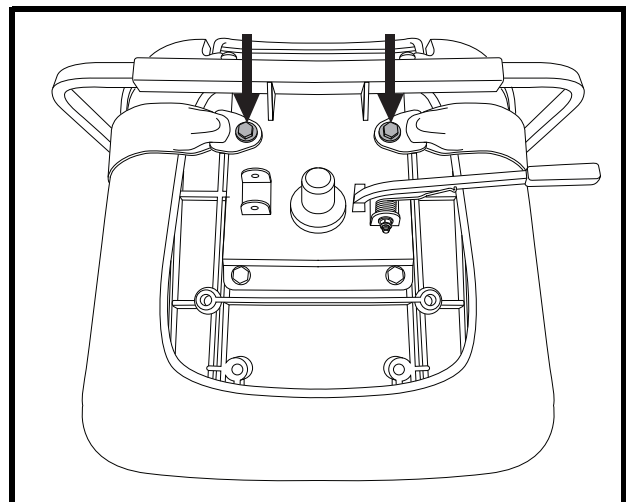

Figure 21. Positioning Belt Bolts
2. Place the seat upside down so that you can see the bottom of the seat base. See **figure 21**.